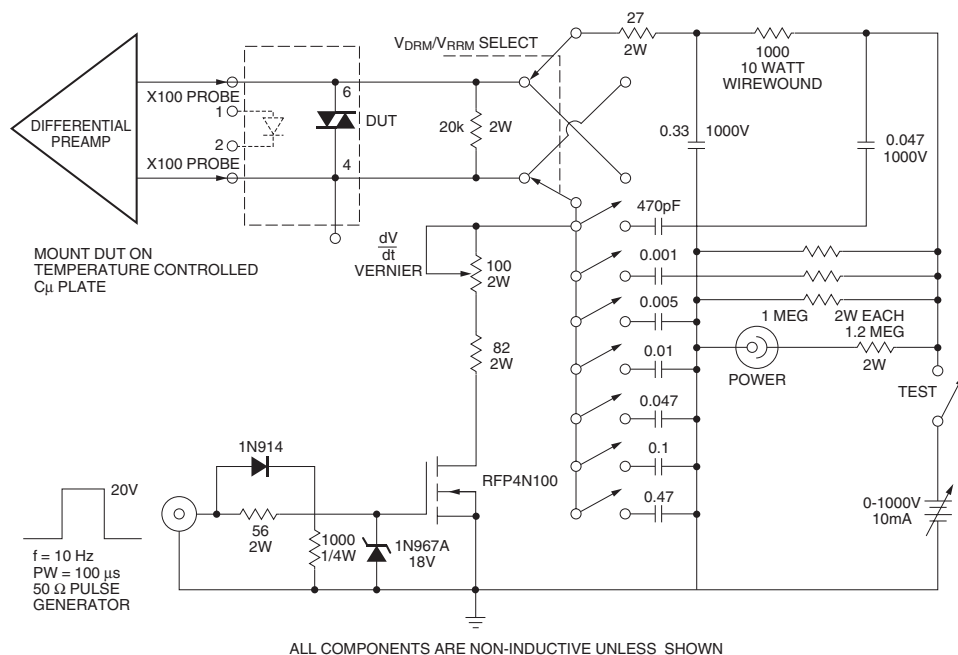

Figure 9. Circuit for Static $\frac{dV}{dt}$ Measurement of Power Thyristors
- This is static dv/dt. See Figure 9 for test circuit. Commutating dv/dt is a function of the load-driving thyristor(s) only.